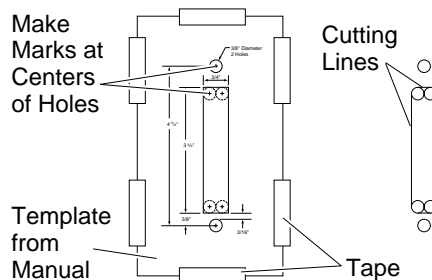

Figure 10 - Using Template for Wall Switch Installation
10. Using a straight edge and pencil, connect the outer edges of the 4 holes for the rectangle (see Figure 10). This will give you cutting lines for the rectangle you will cut in the wall.
10. Using a straight edge and pencil, connect the outer edges of the 4 holes for the rectangle (see Figure 10, page 9). This will give you cutting lines for the rectangle you will cut in the mantel wall.